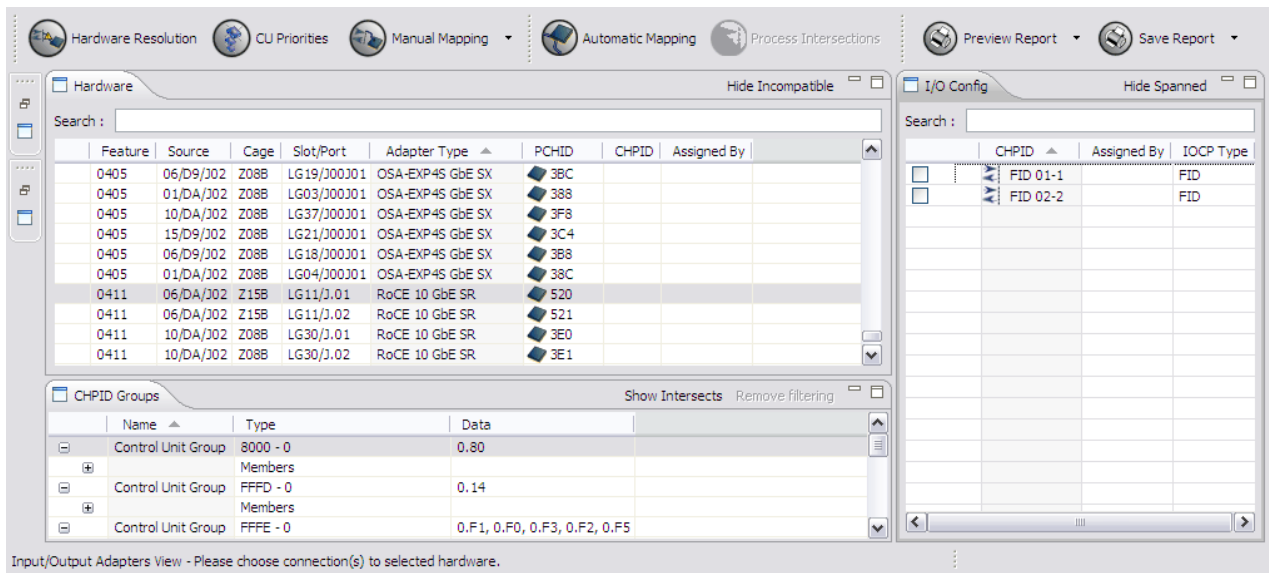

Figure 127. Preview Report and Save Report buttons
**Preview Report** and **Save Report** are located near the top of the IBM CHPID Mapping Tool window. Figure 127 on page 99 shows these buttons.